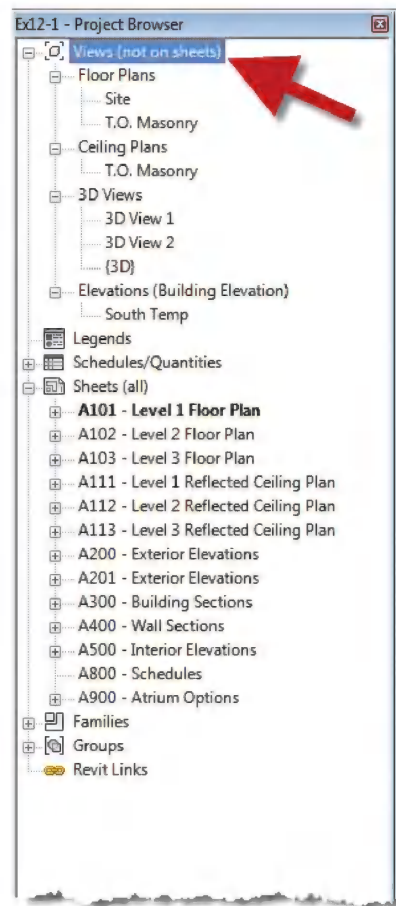

FIGURE 14-1.15
31. Notice the list in the *Project Browser* now has fewer views listed. (See Figure 14-1.15 on page 14-10.)